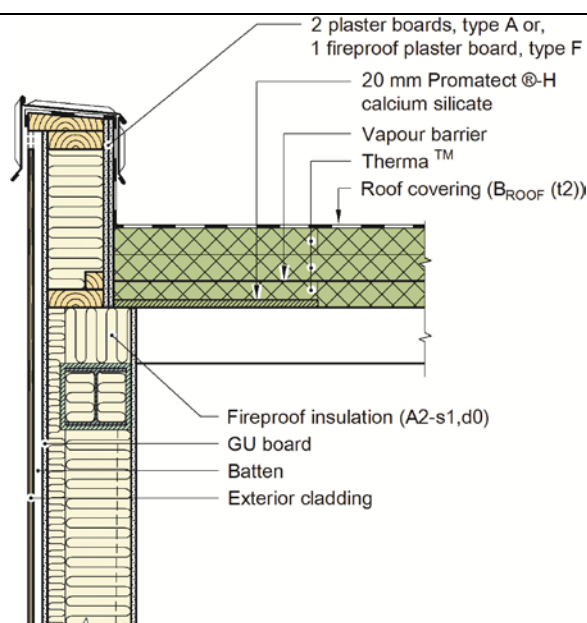

Fig. 4
- In cases where a roof structure of load-bearing steel sheets has parapets or adjacent walls/facades with combustible materials, a 0.6 m wide board of 20 mm PROMATECT®-H calcium silicate must be placed under the Kingspan Therma™ towards the wall. Parapets with combustible materials must be protected on the roof side with two layers of type A gypsumboards 13 mm or one layer of type F gypsumboard 15 mm. Alternatively a 30 mm layer of rock wool with a minimum density of 170 kg/m3 may be used. See Fig. 4.